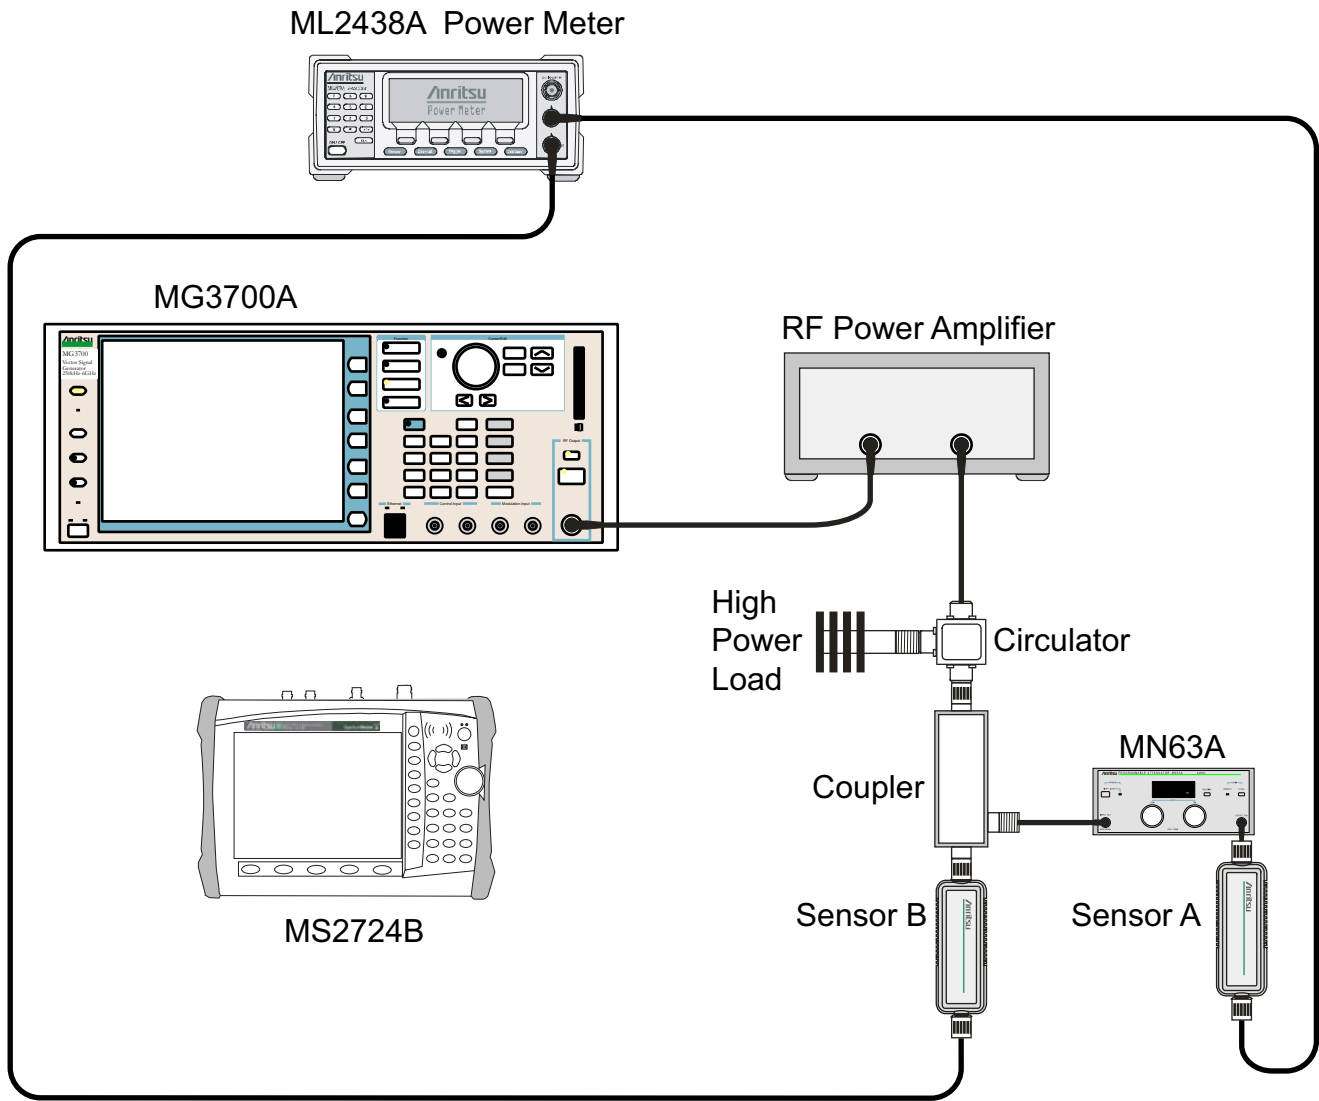

Figure 2-20. WCDMA/HSDPA Signal Analyzer – Characterization Setup
1. Connect the MG3700A, RF power amplifier, circulator, load, coupler, and programmable attenuator as shown in Figure 2-20.
3. Connect the power sensors to the power meter and then calibrate the sensors. Then connect the sensors as shown in Figure 2-20.
4. Press the **On/Off** key to turn on the MS2723B or MS2724B and wait until the measurement display appears. Then press the **Shift** key, and press the **Mode** (9) key to activate the mode selection menu.
6. Press the **Shift** key, the **Preset** (1) key, and then the Preset soft key.